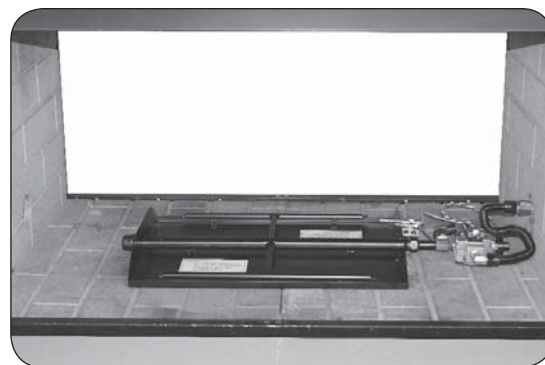

Fig. 18-2 Center burner in fireplace
4. Place the burner system in the fireplace. Center the burner from left to right in the fireplace. See Fig. 18-2.